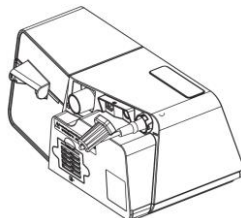

Fig. 10-5
(1) Connect the device to power supply in accordance with 10.3 *Connecting Power Supply*.
(2) Clip the narrow end of the power cord locker to the cord of the power adapter, as shown in Fig. 10-5.